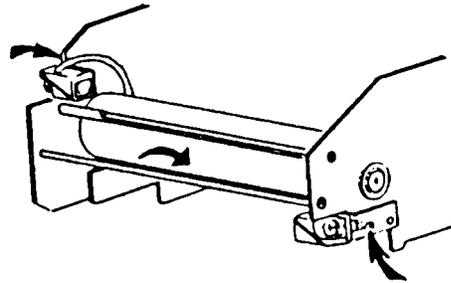

Figure 14
- a. Loosen the two screws retaining Label Strip per Bar. (figure 14)